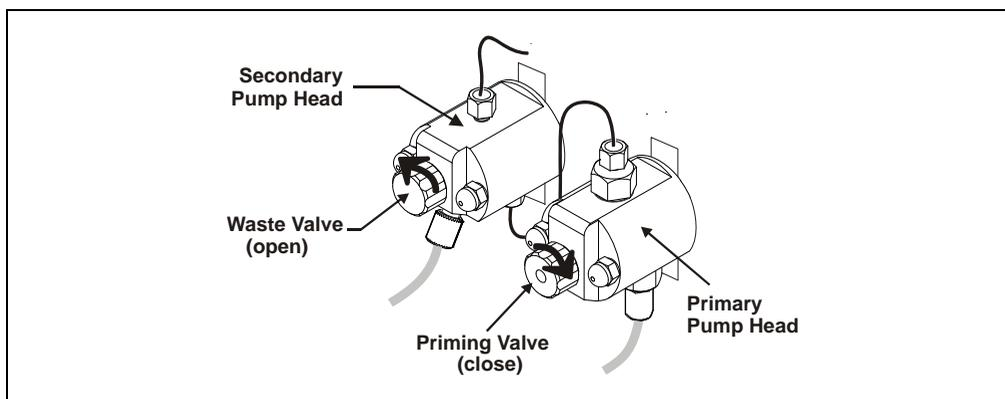

Figure 3-6. Priming the Pump
1. Verify that the priming valve on the primary pump head (see Figure 3-6) is closed (turned all the way clockwise).